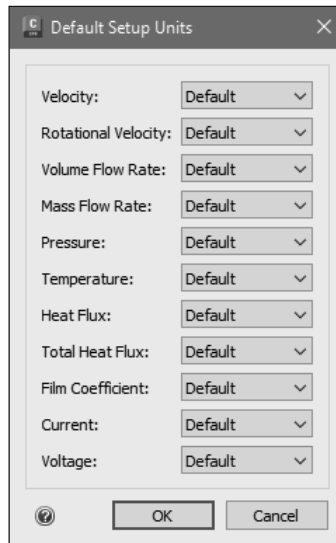

Figure-17. Default Setup Units dialog box
- Click on the **Edit** button for **Setup units** option to define unit system for analysis setup. The **Default Setup Units** dialog box will be displayed; refer to Figure-17. Set desired parameters in various drop-downs to define respective unit types. After setting desired parameters, click on the **OK** button.